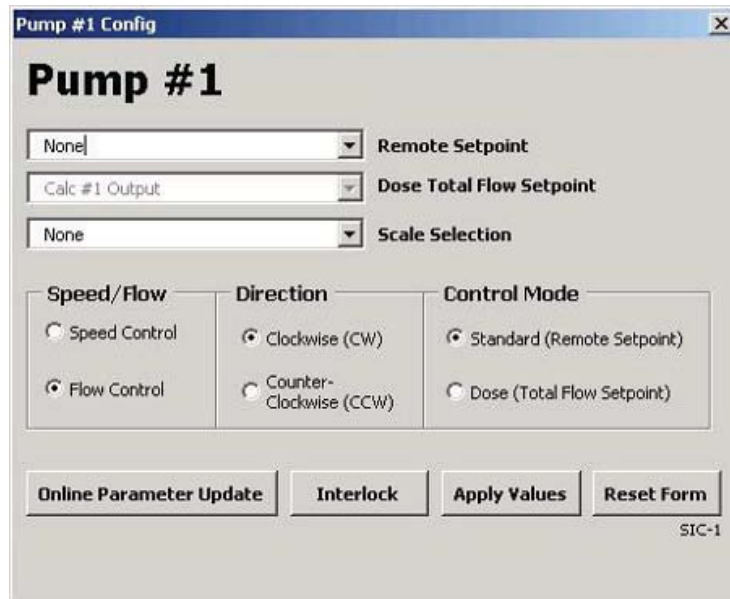

Figure 4.11. Pump #1 Config screen with Speed/Flow, Direction, and Control Mode options.
6. Set the remote setpoint to “pH Control Output #1.” Select the “Speed Control” radio button to set and the correct pump direction to flow into the vessel (usually “clockwise”) (Figure 4.11).